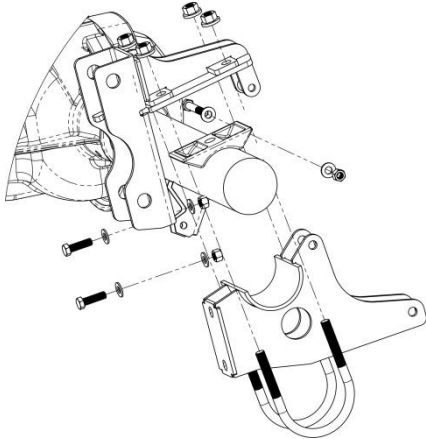

Figure 18. Axle Clamp assembly
- Place the Axle Cradle under the axle tube and loosely attach to the Axle Seat using the (1) 1/2 -13 x 3.25 Hex Flange Bolt and (1) 1/2-13 Locking Flange Nut at the rear connection point. Use (2) 1/2-13 x 1.25 Hex Flange Bolts and (2) 1/2-13 Locking Flange Nuts at the front connection point. See Figure 18.